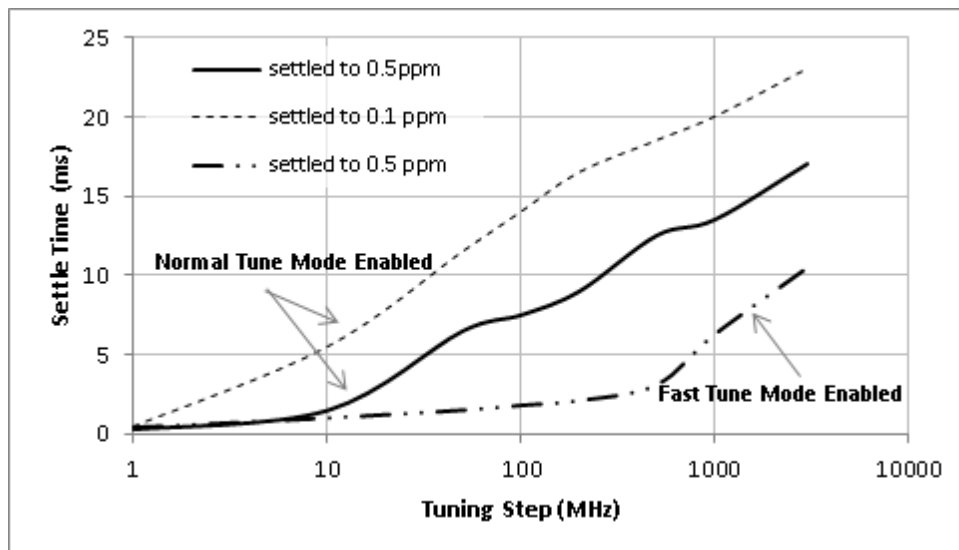

Figure 2. Typical frequency settling time versus tuning step frequency.
- (3) Tuning resolution of 1 MHz is available.
- (4) Locked and settled to < 1 ppm of final frequencies of > 500 MHz and step size of < 10 MHz. For final frequencies < 500 MHz the settle time applies to accuracy with 500 Hz of the final frequency for a 10 MHz step. See Figure 2 for examples of other tuning step settling times. When fast-tune mode is enabled the noise damping capacitor across the main YIG tuning coil is disengaged, resulting in an increase of the rate of current flow through the coil and settling to a steady state quicker. Lock time begins when the full tuning word command is received by the device.